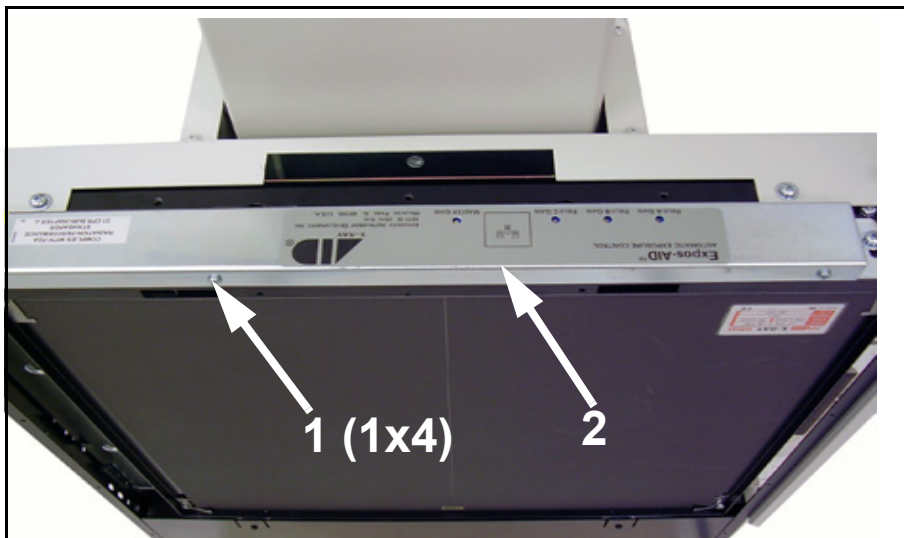

Figure 6-16. ION Chamber Cover Screws
- 3 Unscrew the four cover screws (1 in Figure 6-16) and remove the ION cover (2).